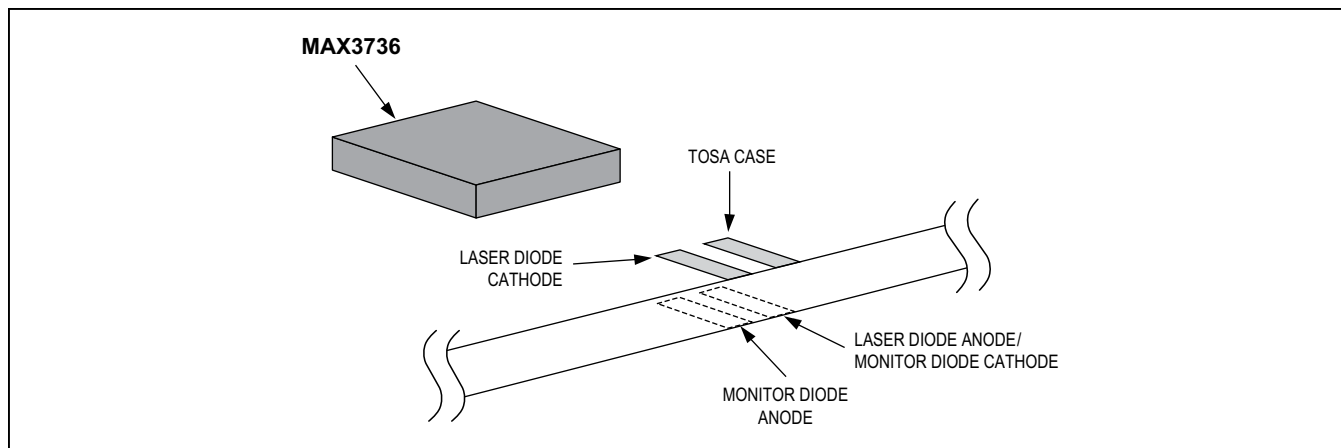

Figure 1. Attachment of Packaged Laser to the MAX3736 EV Kit
- 2) The EV kit is designed to allow connection to a typical BOSA-packaged laser. Connect the laser with monitor diode (Figure 1) as follows: